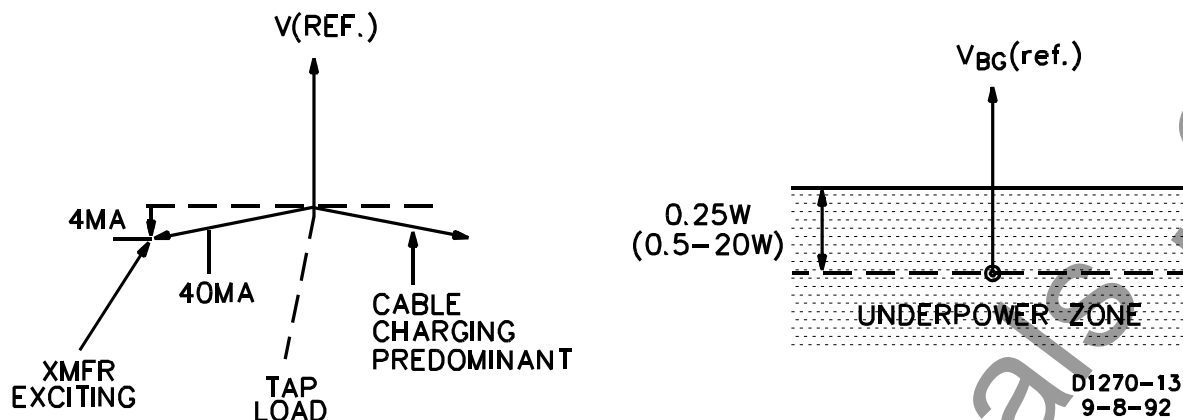
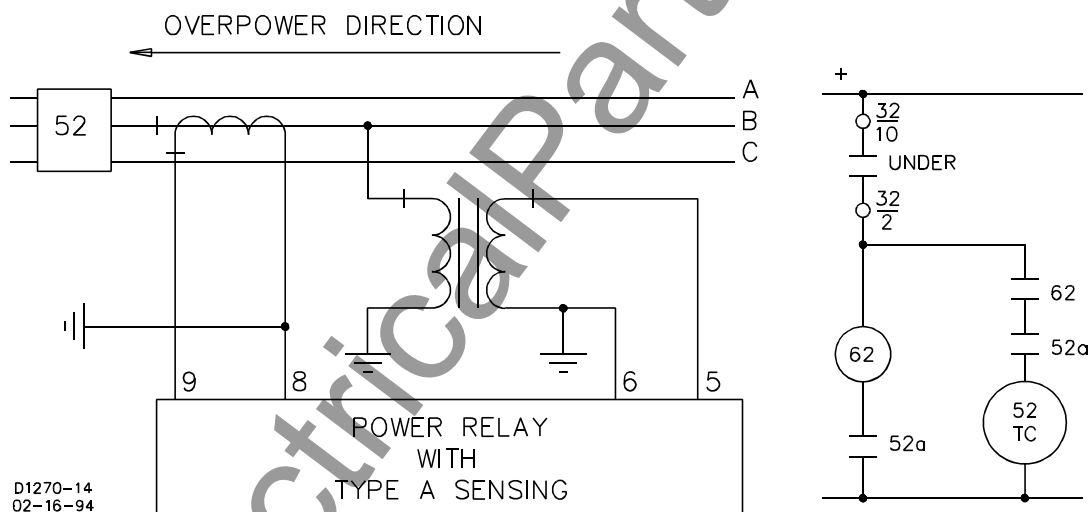

Figure 1-8. Power Factor, Third And Fourth Quadrants
Figure 1-9. Underpower Tripping
When breaker N opens, operation transfers to the third or fourth quadrants, reference Figure 1-8. If transformer exciting current predominates, operation falls in the third quadrant. If cable charging current predominates, operation falls in the fourth quadrant. In either case, the transformer losses must be supplied. In Figure 1-8, a real current component of four milliamperes is shown and represents core losses of the transformer (about 0.1% of rated).
Figure 1-9 (a) shows an underpower tripping application based on the BE1-32 O/U, model A1F with an overpower setting of 0.5 watts and an underpower setting of 50%. The control circuit for this application is shown in Figure 1-9 (b). Figure 1-8 (b) shows the operating characteristic in the first and second quadrant. The relay UNDER contact closes to trip the breaker when the real power flow from the utility drops below 0.25 watts. Because this contact is preclosed at the instant of breaker closing, the trip circuit must be disabled by a timing relay (62) until after the breaker has closed.